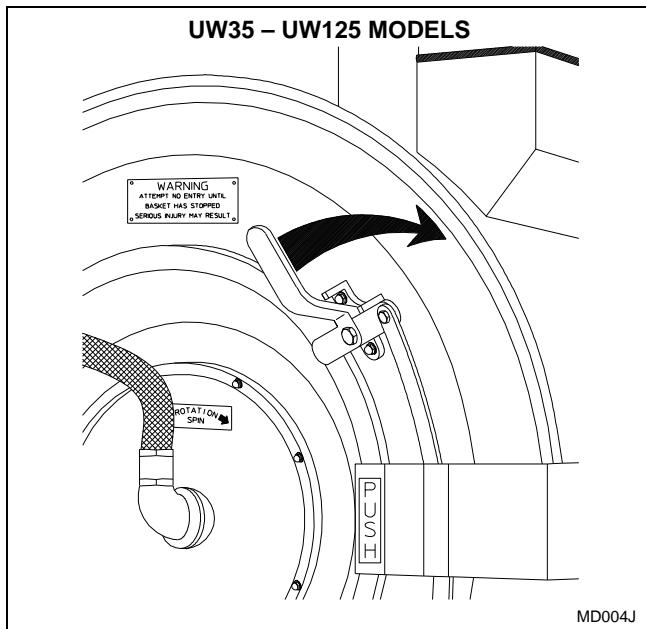

Figure 9
- On 35 – 125 models, turn door handle clockwise and swing the door left to open. Door must be opened within 5 seconds of pressing the door unlock button. Refer to *Figure 9*.